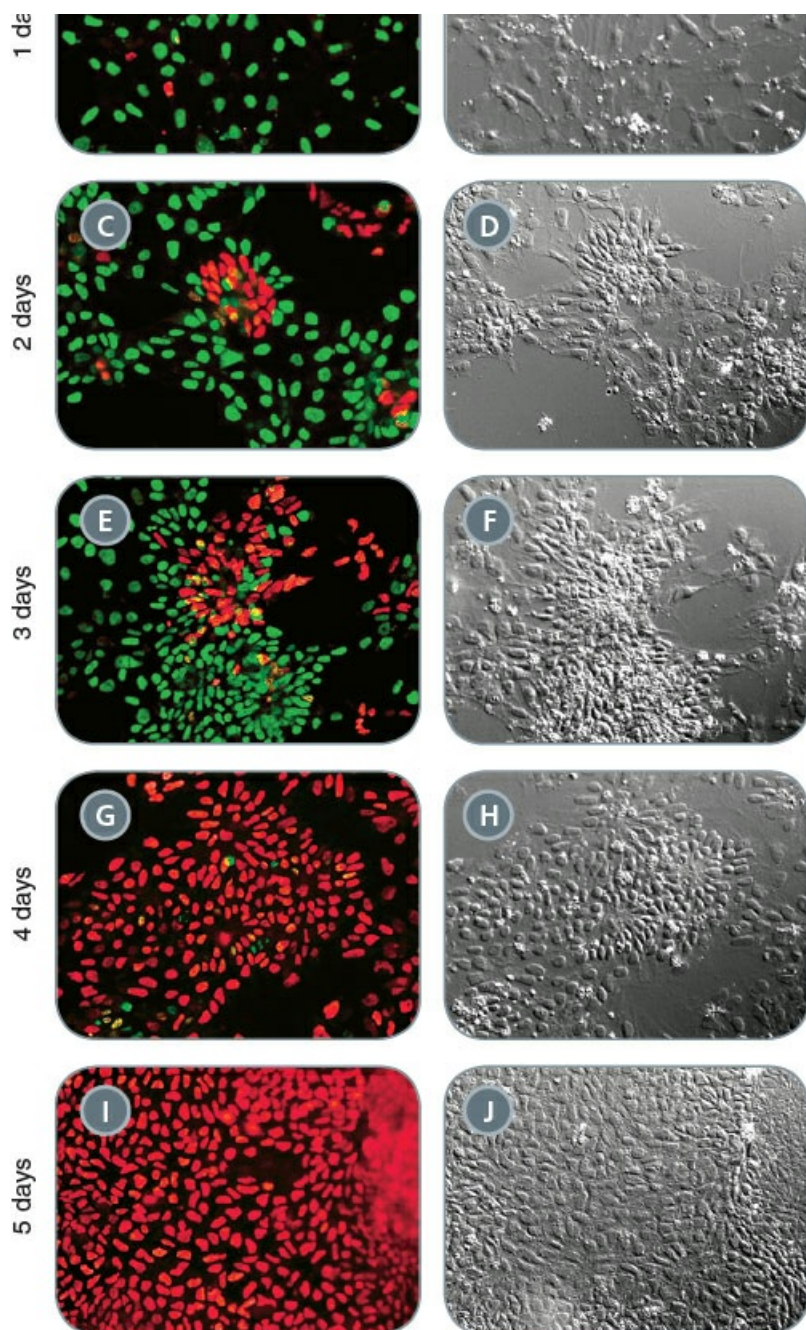

Figure 1. Immunocytochemistry and phase contrast time-course of neural induction of human iPS cells using a monolayer culture protocol.
- 14 After six to nine days in STEMdiff™ Neural Induction Medium, cells will be OCT4-negative and PAX6-positive (Figures 1 - 2). At this point, cultures will be confluent and ready for passaging using ACCUTASE™.